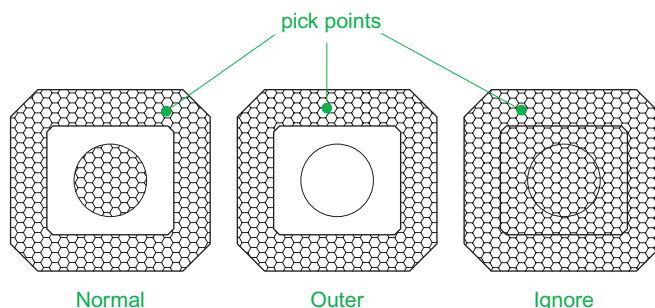

Fig. 8.12 Fifth example – advanced hatching
Fifth example – advanced hatching (Fig. 8.12)
1. Construct a drawing which includes three outlines as shown in the left-hand drawing of Fig. 8.12 and copy it twice to produce three identical drawings.